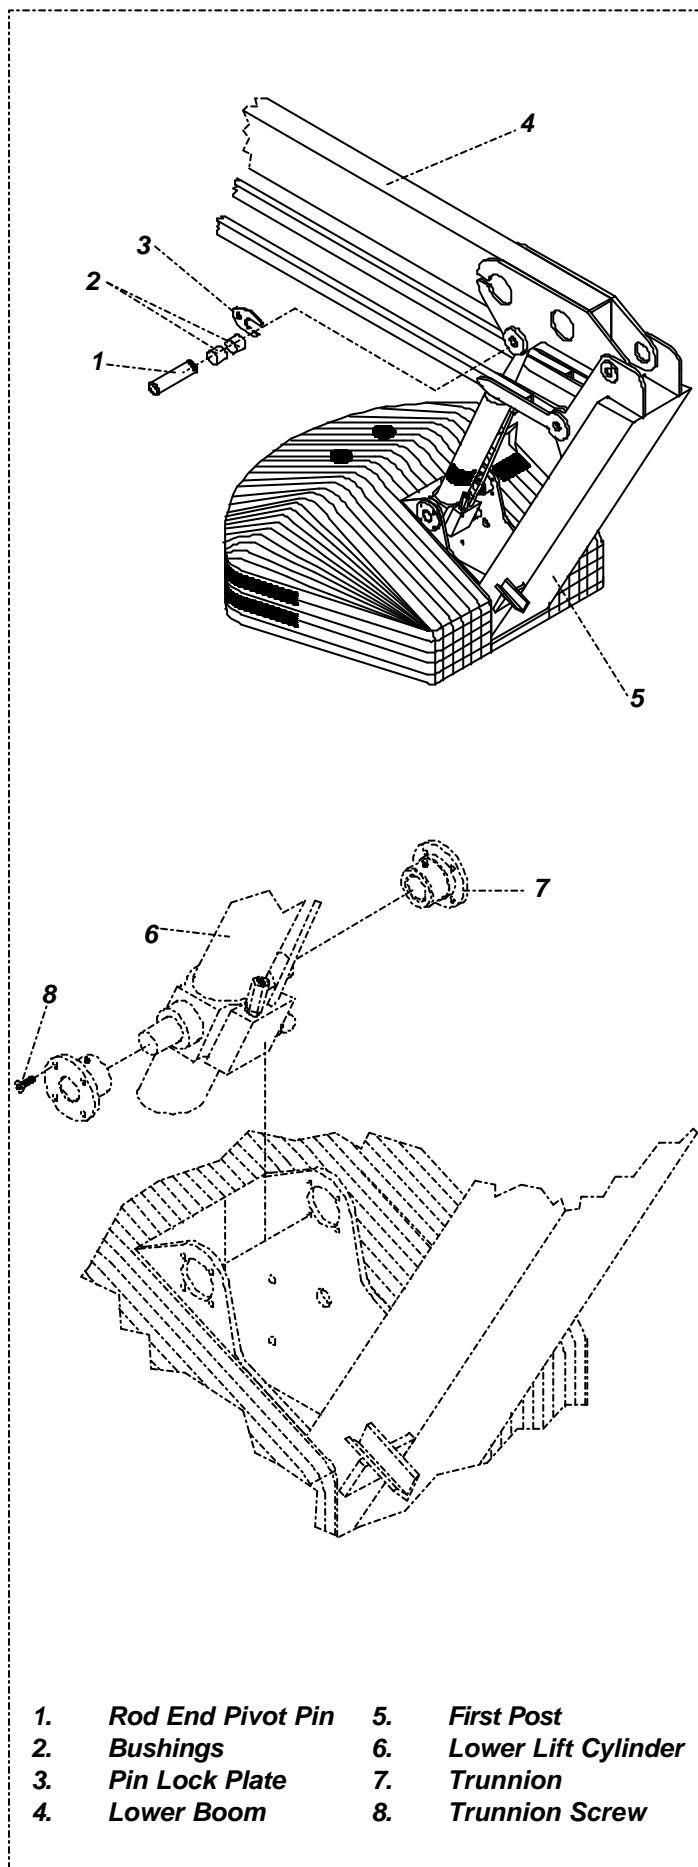

Figure 4-15: Lower Lift Cylinder
4.14 Lower Lift Cylinder (Figure 4-15)